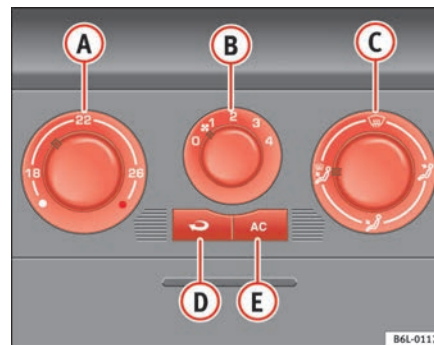

Fig. 91 On the instrument panel: air conditioning controls
- Disconnect the cooling system using button ⇒ fig. 91 **AC** (the button light goes off).